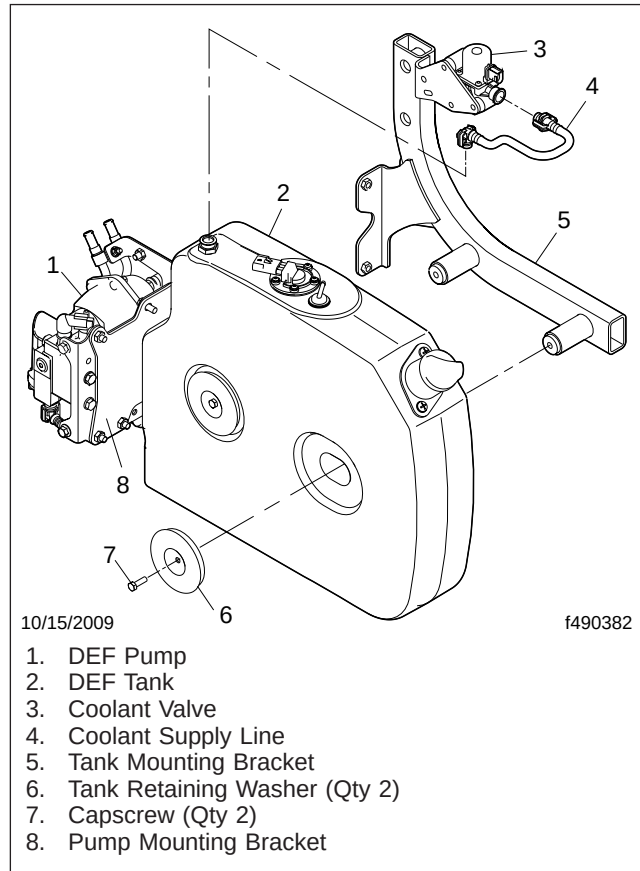

Fig. 3, 6-Gallon Tank Mounting Assembly
11. Remove the two capscrews that secure the tank and retaining washers on the mounting studs. See Fig. 3.